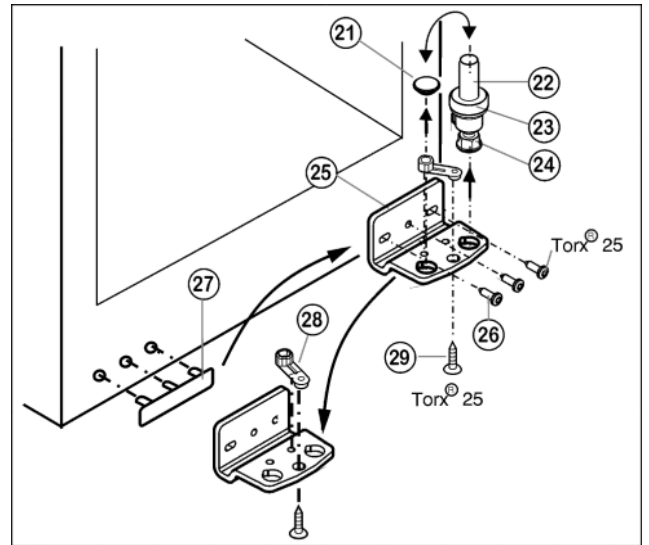

Fig. 5
- ▶ Lift out the bearing pin Fig. 5 (22) together with washer Fig. 5 (23) and adjustable-height foot Fig. 5 (24).
- ▶ Lift off the stopper Fig. 5 (21).
- ▶ Unscrew Fig. 5 (26) the turn hinge Fig. 5 (25).
- ▶ Unscrew Fig. 5 (29) the bearing element Fig. 5 (28), transfer it to the opposite location hole of the turn hinge and screw it firmly into place.
- ▶ Carefully lift off the cover on the handle side Fig. 5 (27) and transfer it to the opposite side.
- ▶ Screw the turn hinge Fig. 5 (25) firmly into place on the new hinge side, possibly using a cordless screwdriver (with 4 Nm).
- ▶ Re-insert the stopper Fig. 5 (21) into the other hole.
- ▶ Re-insert the bearing pin Fig. 5 (22) together with the washer and adjustable-height foot. In so doing, pay attention that the locating lug points backwards
- ▶ Place the door from above onto the lower bearing pin Fig. 5 (22).
- ▶ Insert the upper turn hinge (12) in the door on the new hinge side.
- ▶ Screw the upper turn hinge (12) firmly into place (with 4 Nm) (2x Torx® 25) (13). Possibly make preliminary holes with a bradawl or use a cordless screwdriver.
- ▶ Snap the cover (10) and cover (11) into place at the opposite side.
- ▶ Align the door to the appliance housing by way of the two oblong holes in the bottom turn hinge Fig. 5 (25). To do so, unscrew the middle screw.